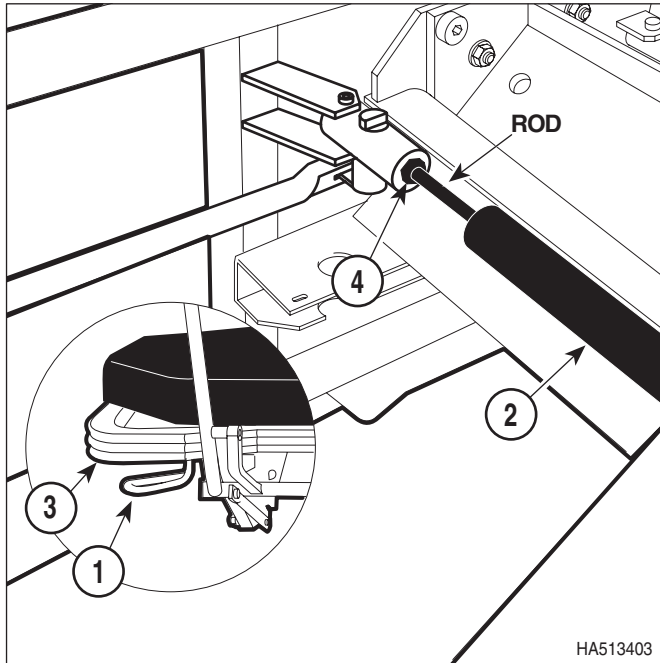

Figure 4-23. Trendelenburg Gas Spring Adjustment (540, 545, 550, and 555 only)
- (1) Squeeze the Trendelenburg handle (1, Figure 4-23). The Trendelenburg gas spring (2) should release when the handle is squeezed - meaning the litter top (3) should be able to be raised and lowered. Release the Trendelenburg handle. Put pressure on one end of the litter top and then the other end. The litter top should not "drift" upward or downward.
- (2) Lower bellows or top column cover for access (Refer to para 4.3 or 4.3.1).
- (3) Loosen jam nut (4).